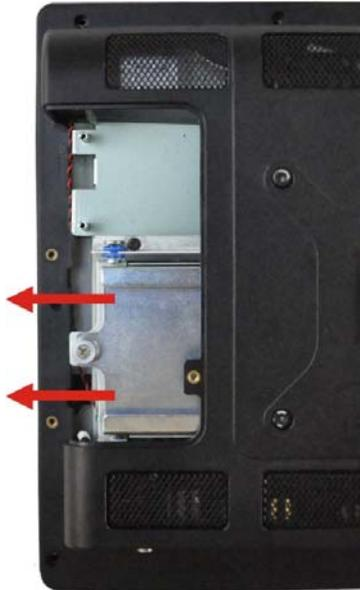

Figure 4-3: Removing the HDD Bracket
Step 4: Slide the HDD bracket out of the device as shown (Figure 4-3).